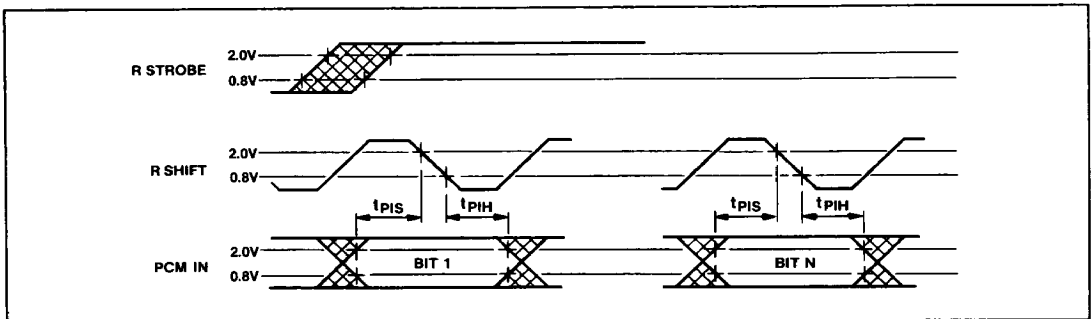

Fig.10 Timing - receive data
**Digital Switching Characteristics - Receive Data (see Fig.10)**